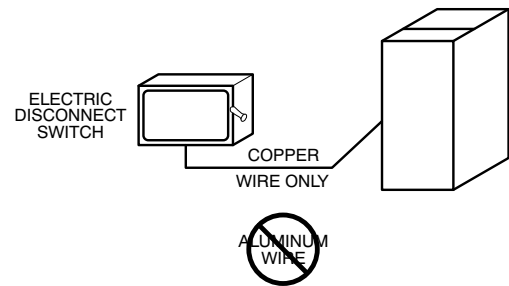

Fig. 34 – Field-Supplied External Electrical Box on Furnace Casing
Do not connect aluminum wire between disconnect switch and furnace. Use only copper wire. See Fig. 34.
1. Drill two (2) 1/8-in. (3 mm) pilot holes through the dimples in the furnace casing near the 7/8-in. (22 mm) knockout or plug on the side of the casing. Do not remove the knockout or plug in the side of the casing.
3. Install two (2) screws through the outside of the casing to secure the J-Box bracket to the furnace casing.
9. Connect field power and neutral leads to furnace power leads inside the external electrical box as shown in Fig. 34.